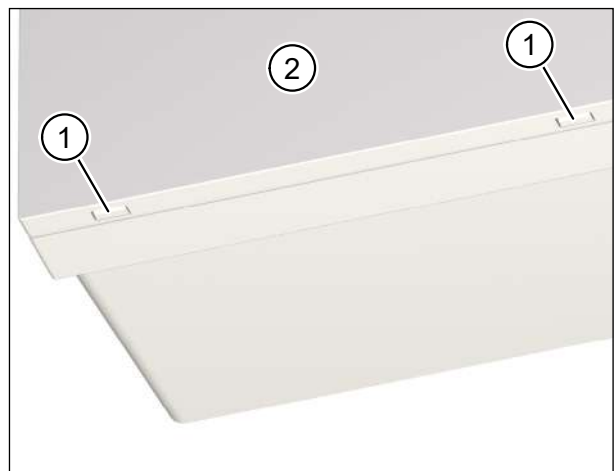

Fig. 5: Remove unit cover from the ventilation unit and clean
- ▶ Using both thumbs, press the two latches (item 1 in Fig. 5) on the bottom of the ventilation unit. The unit cover (item 2 in Fig. 5) will come away.